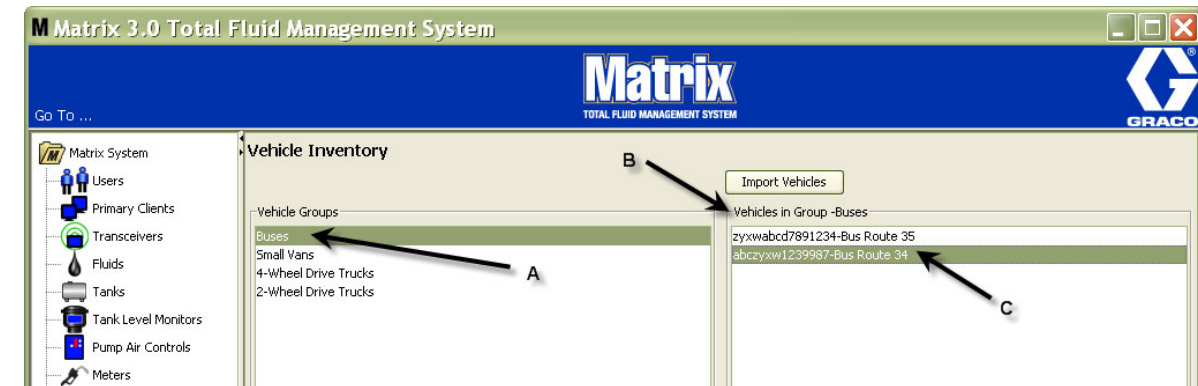
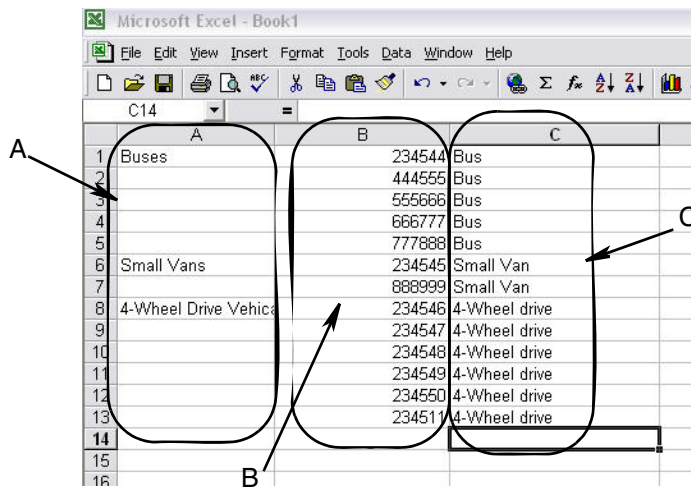

FIG. 156
FIG. 159
7. The vehicles will only be displayed on the main Vehicle Inventory Screen when the specific group it is associated with is highlighted. In the example provided in FIG. 156 the Vehicle Group Buses is highlighted (A). Notice that the Group Name “Buses” has been added at the end of the Vehicles in Group column title (B) and the list displayed in that column only contains the Buses that are in the fleet inven-
Sections A, B, and C in FIG. 159 correspond to Sections A, B, and C in FIG. 156.